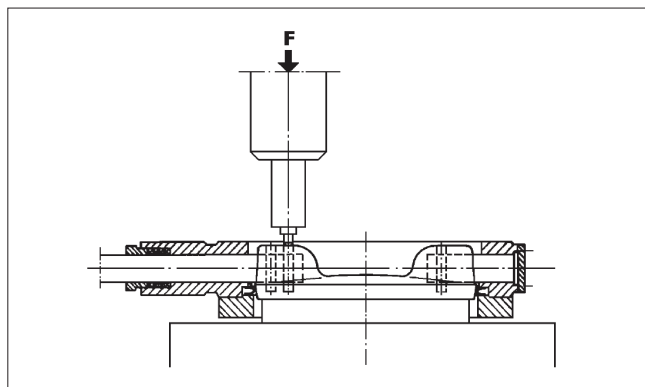

Fig. 16 Pressing the pins
- Support the disc well in a horizontal position during mounting of the pins. Push the new pins into the holes and press them in a press to final form (see Fig. 16). Use slightly larger tool than the pin diameter. See Table 7 for forces.